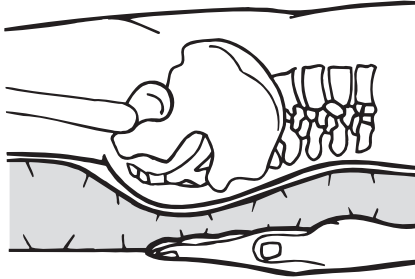

Figure 5—HAND CHECK showing **correct** inflation
- b) Wait for full inflation of the air cell directly above your hand. If you cannot feel the patient's body in direct contact with your hand, the Paradise Pad System is operating correctly. See figure 5.